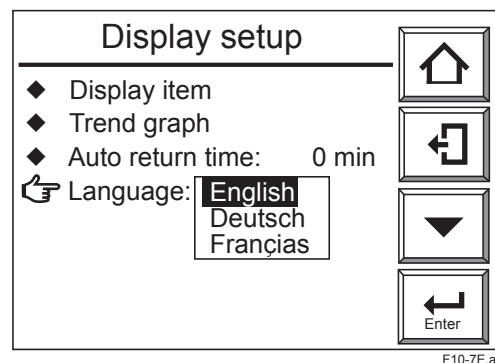

Figure 10.7 Selecting the Display Language
- (1) On the Basic panel display, touch the [Setup] key to display the Execution/Setup display.
- (2) Select the “Maintenance”, then “Display setup”.
- (3) Select the “Language” and the dropdown selection (Figure 10.7) allows you to select the desired language.